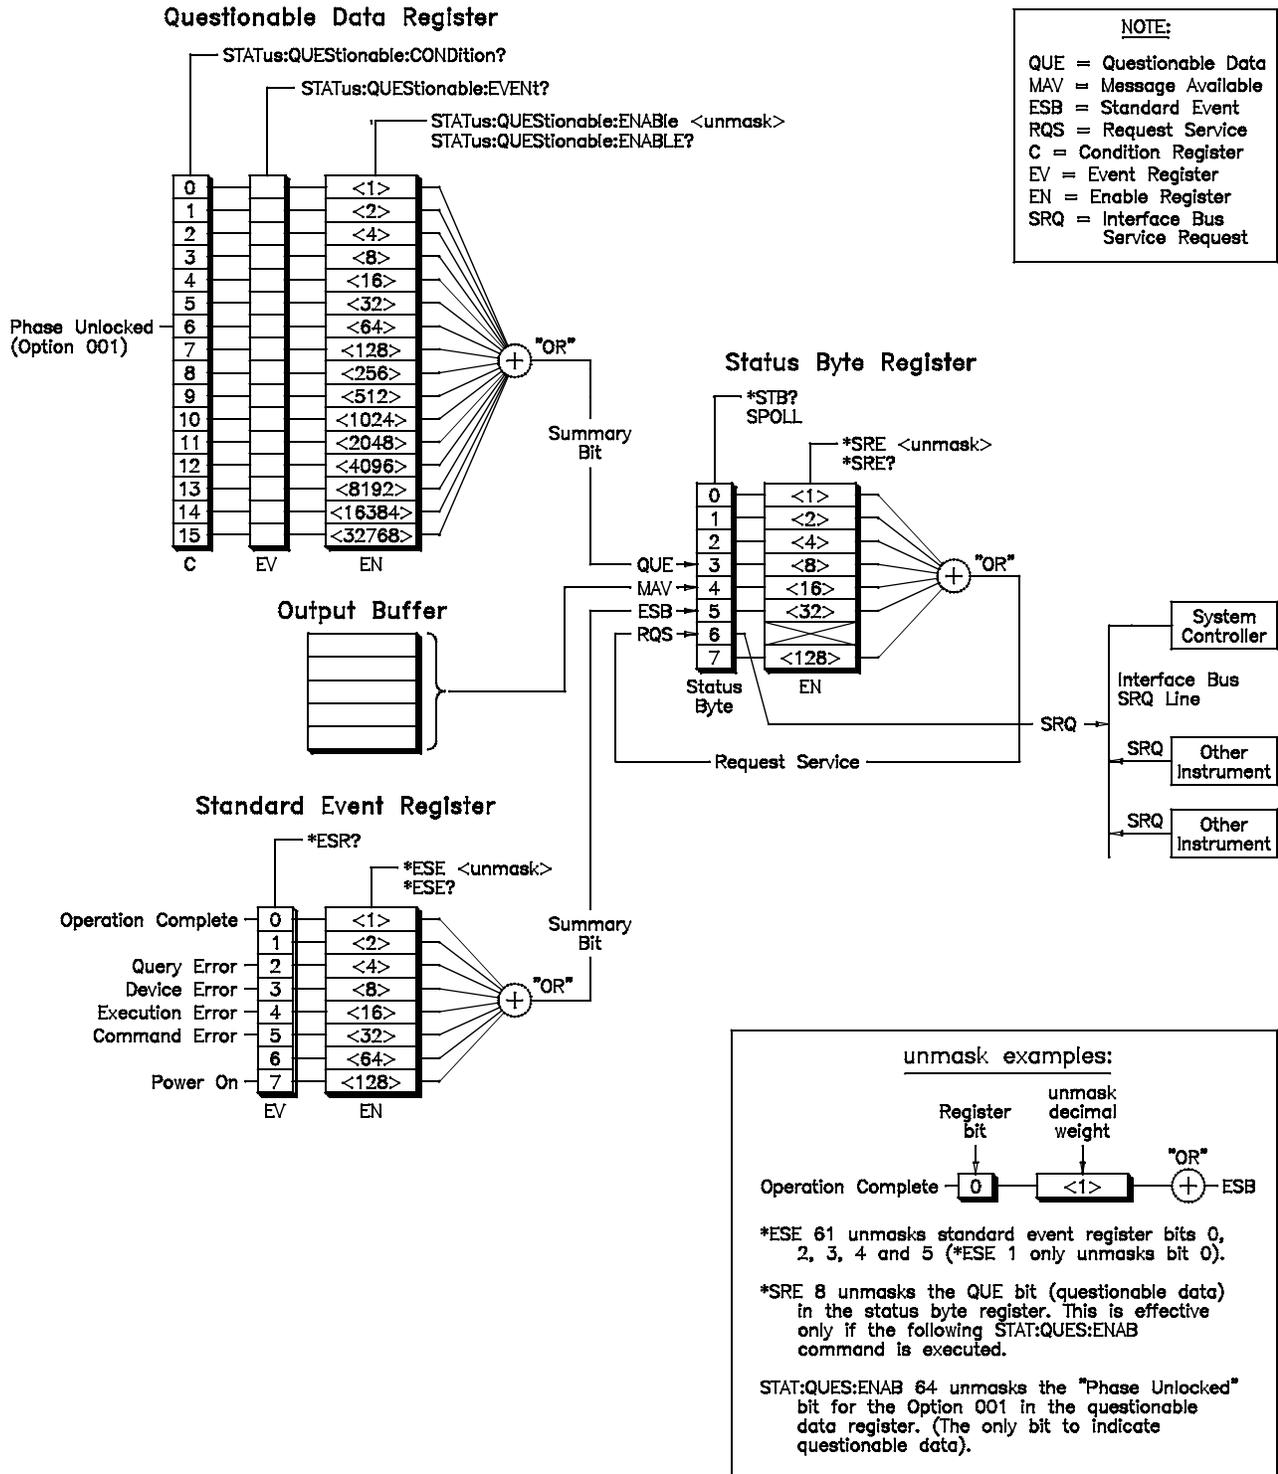

Figure 3-1.
- The STATus system contains four registers, two of which are under IEEE 488.2 control; the Standard Event Status Register (*ESE?) and the Status Byte Register (*STB?). The Operational Status bit (OPR), Service Request bit (RSQ), Standard Event summary bit (ESB), Message Available bit (MAV) and Questionable Data bit (QUE) in the Status Byte Register (bits 7, 6, 5, 4 and 3 respectively) can be queried with the *STB? command. Use the *ESE? command to query the "unmask" value for the Standard Event Status Register (the bits you want logically OR'd into the summary bit). The registers are queried using decimal weighted bit values. See Figure 3-1 on page 119.